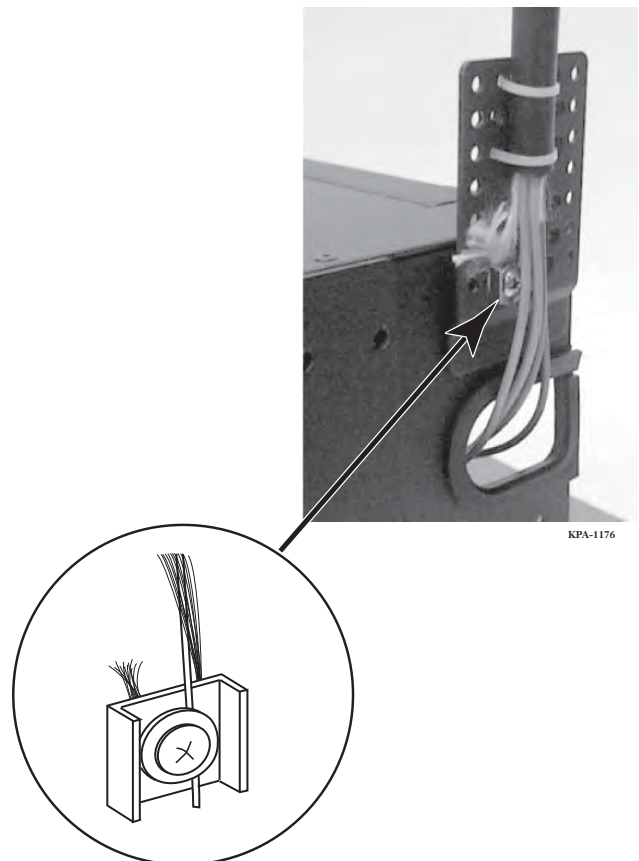

Figure 11
8.3 If using cable ties, attach the cable to the strain-relief bracket (in two places) as shown in Figure 11.
8.4 When fiber optic cable with a central member is not secured with the UCC, the central member must be strain-relieved (Figure 11):